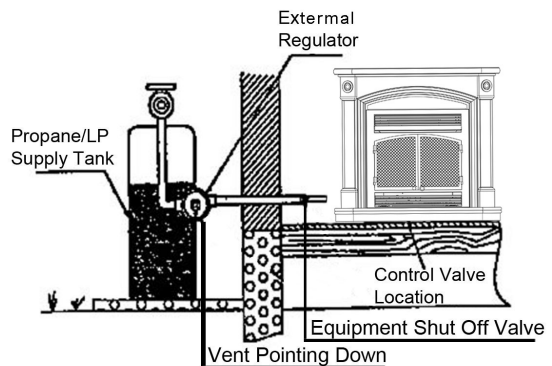

Figure 12- Checking Gas Joints
3. Check all joints from gas meter to equipment shutoff valve (see Figure 12). Apply mixture of liquid soap and water to gas joints. Bubbles forming show a leak.
4. Check all joints from equipment shutoff valve to control valve (Figure 12). Apply mixture of liquid soap and water to gas joints. Bubbles forming show a leak.